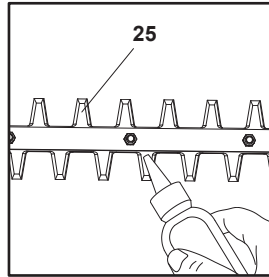

Fig. 60
1. Keep the hedge trimmer blade (25) clean and free of debris. Remove trimmings with a brush.
2. Apply a small amount of suitable lubricant on the hedge trimmer blade (25) to retain a good cutting performance (Fig. 60).